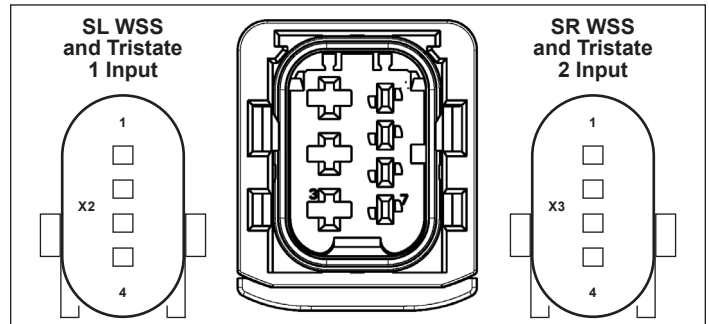

Figure 8 – 7-pin ECU Connector Pinout
Vehicles have an exciter ring (often referred to as “tone ring”) as part of the wheel assembly. (*Hereafter, the exciter ring will be referred to as a tone ring throughout this document.*) The default setting expects a 100-tooth tone ring to be used. Refer to Section 20 for more information. As the wheel turns, the teeth of the tone ring pass the WSS, generating an Alternating Current (AC) signal which is delivered to the iTABS ECU. The signal varies in voltage and frequency as the wheel speed changes. See Figure 8 for an electrical schematic showing the WSS connector pin locations.